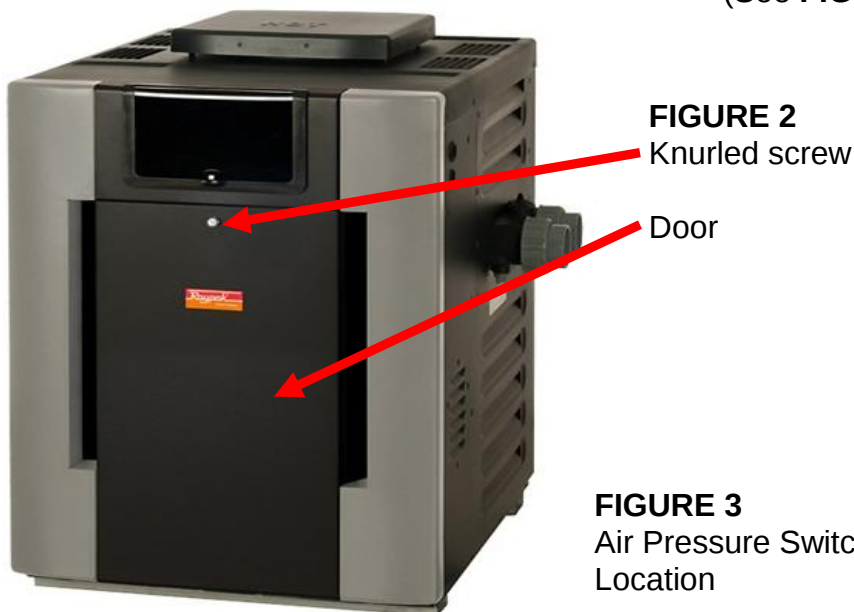

FIGURE 3
9. Locate the air pressure switch. (See **Figure 3 & 4**).